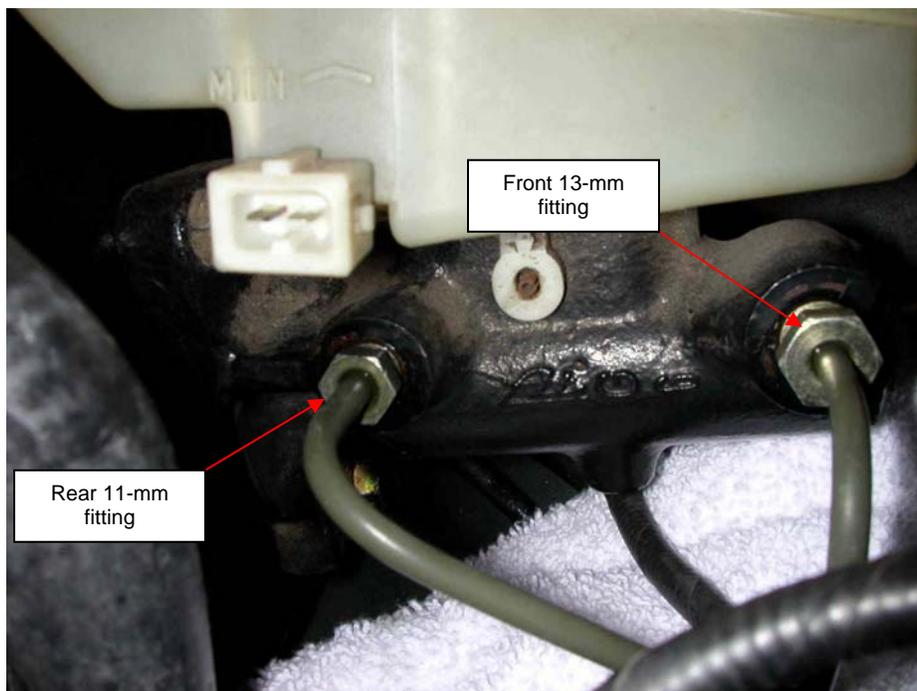

Fig. 10
10. Loosen and withdraw the forward, 13-mm, and rearward, 11-mm, brake-line fittings. Catch any brake fluid that drips from the master cylinder or lines in the cloth. (Fig. 10).